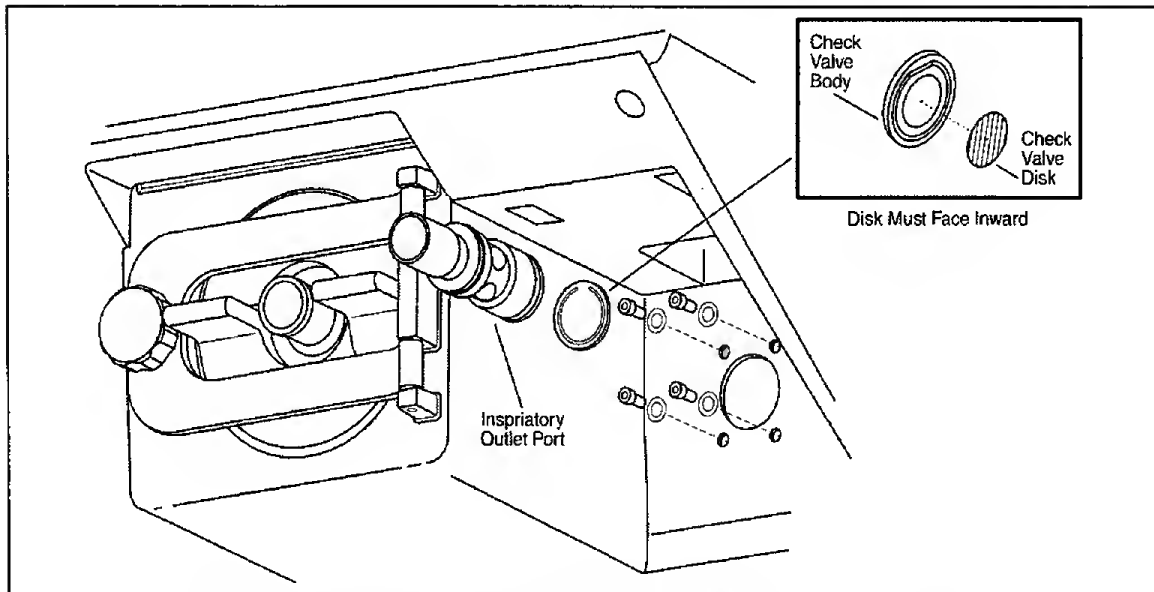

Figure 7-23: Inspiratory Outlet Port and CV3 Check Valve Orientation
11. Remove four screws and washers holding the inspiratory outlet port to the enclosure then pull the outlet port from the inspiratory manifold (see Figure 7-23).
3. Connect the silicon tube from the Air Flow Sensor to the male port on the inspiratory manifold (see Figure 7-23). **Note: Route cables MTR O2, MTR BV and MTR EV underneath the silicone tube.**
8. Install four screws with washers near the inspiratory outlet port (see Figure 7-23).
9. Check the o-ring on the inspiratory outlet for cracks or deformations (see Figure 7-23). Replace as necessary. Lightly lubricate the o-ring.
10. Check that the CV3 check valve in the inspiratory outlet is oriented and seated properly (see Figure 7-23).